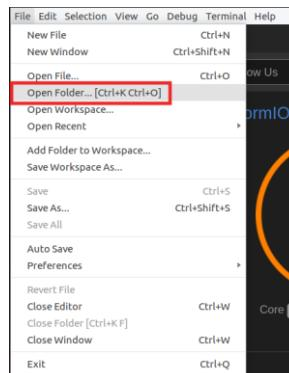

Figure 33. Open Folder
- d. On the top menu bar, click on *File → Open Folder* (see Figure 33) and browse into directory *[RVfpgaPath]/RVfpga/examples/*